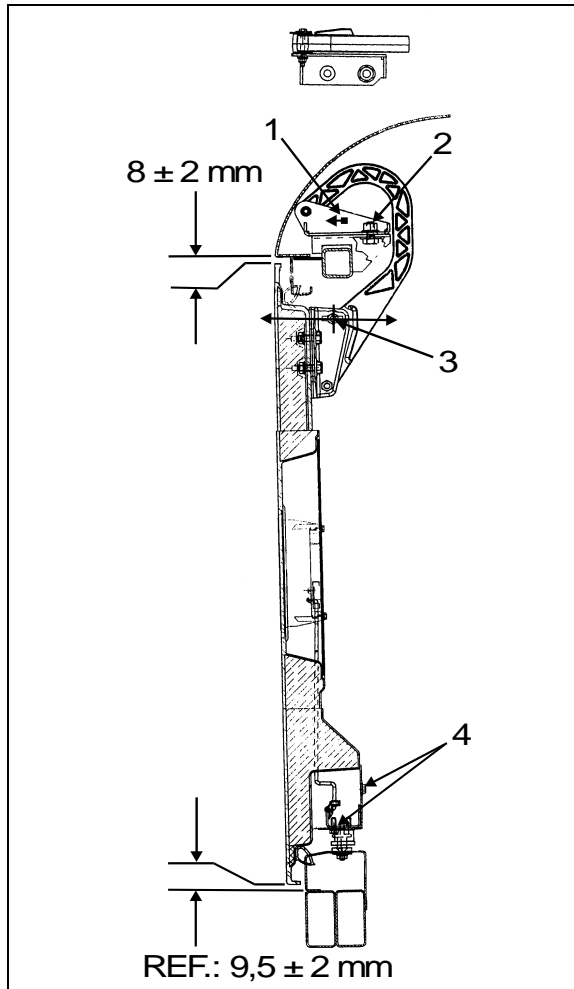

FIGURE 71: DOOR HINGE
2. Loosen nut (2, Figure 71).
3. Move part (1, Figure 71), as close as possible to exterior of coach, so as to have enough clearance for proper door opening.
4. Tighten nut (2, Figure 71).
5. Loosen nut (3, Figure 71). Hinge allows the door to be shifted "IN or OUT".
- Adjust door panel to have the same gap space as neighboring panels or refer to Figure 51 for specified gap space. Only if necessary, use the adjustment allowed by moving part 1, Figure 71.